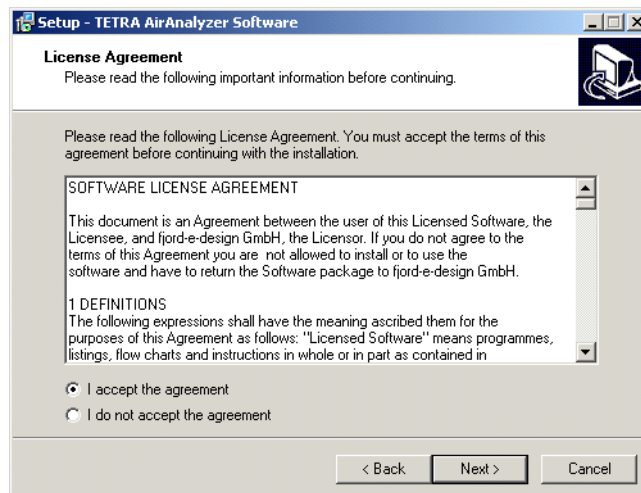

Figure 2 Confirmation of the software license agreement
- 3 Click the **Next** button to continue. The dialog box shown in Figure 2 will be displayed. You will be asked to accept the software license agreement of fjord-e-design GmbH.